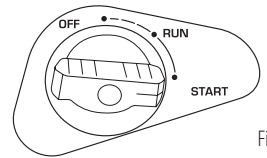

Fig. 5
4. Turn the air choke control knob to the "START" position (fig. 5).